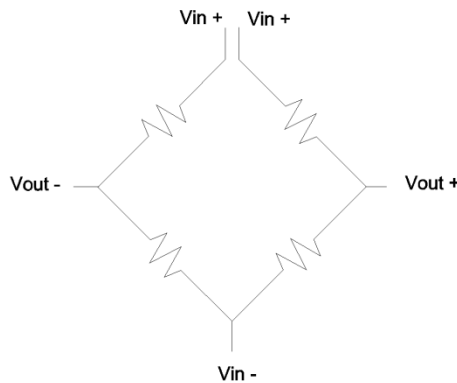

Figure 2 – Half open bridge
b. *Half Open* – A bridge that is divided into two branches and connected at one end (See Figure 2).